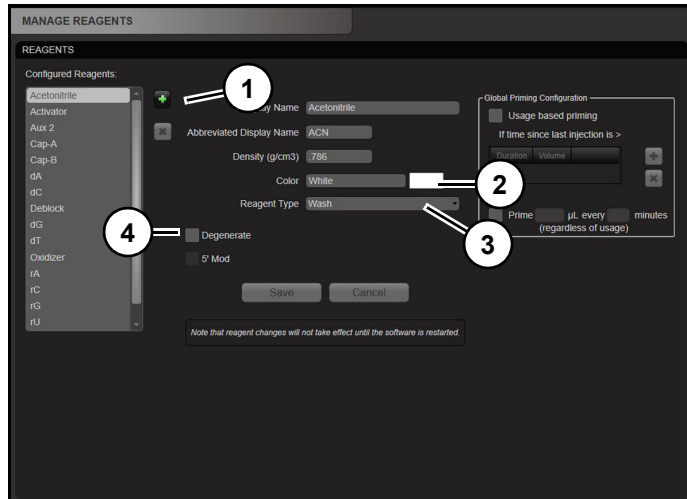

Figure 49
1. Click "+" (1) (Figure 49).
5. Click "OK" (4). Reagent will be added to configured reagents box.
6. Select reagent in reagent box to modify "Color" (2), "Reagent Type" (3) and "Degenerate" (4) reagent, if necessary. (Figure 49)